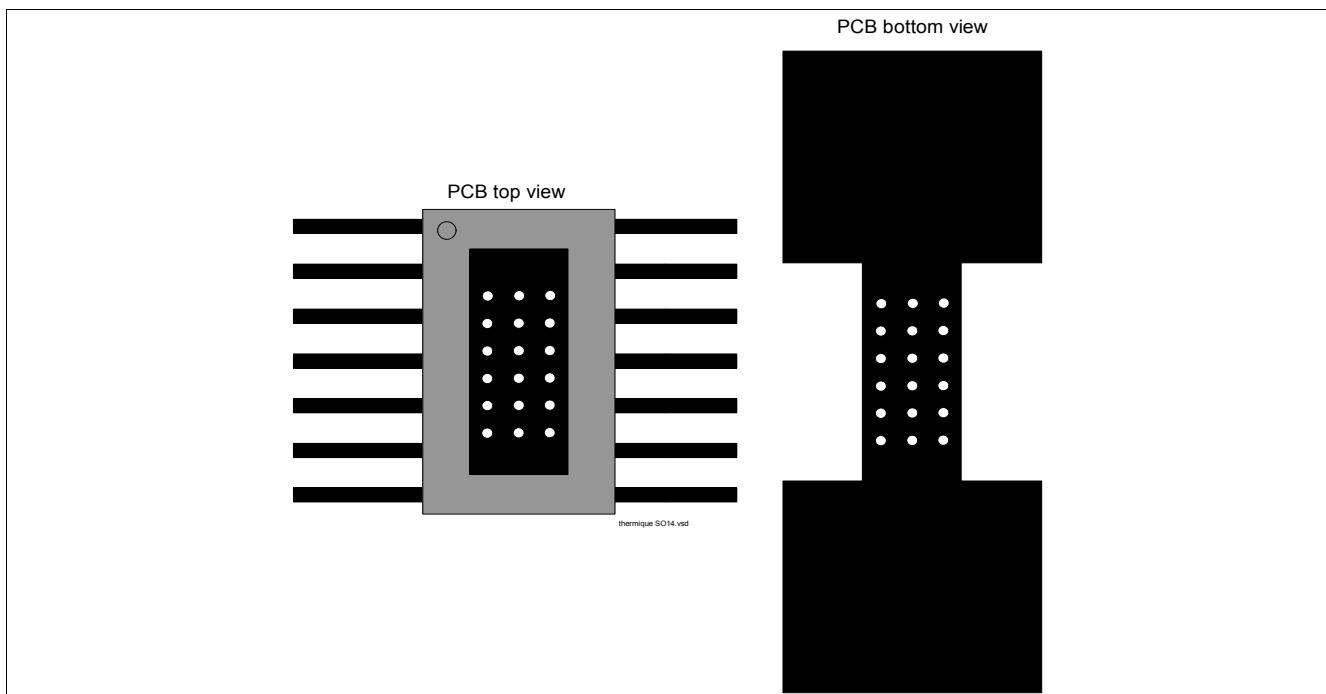

Figure 5 PC Board Top and Bottom View for Thermal Simulation with 600 mm2 Cooling Area
2) Specified  $R_{thja}$  value is according to JEDEC JESD51-2,-5,-7 at natural convection on FR4 2s2p board; The product (chip + package) was simulated on a 76.4 x 114.3 x 1.5 mm board with 2 inner copper layers (2 x 70  $\mu$ m Cu, 2 x 35  $\mu$ m Cu). Where applicable, a thermal via array under the exposed pad contacts the first inner copper layer. Please refer to Figure 4 and Figure 5.